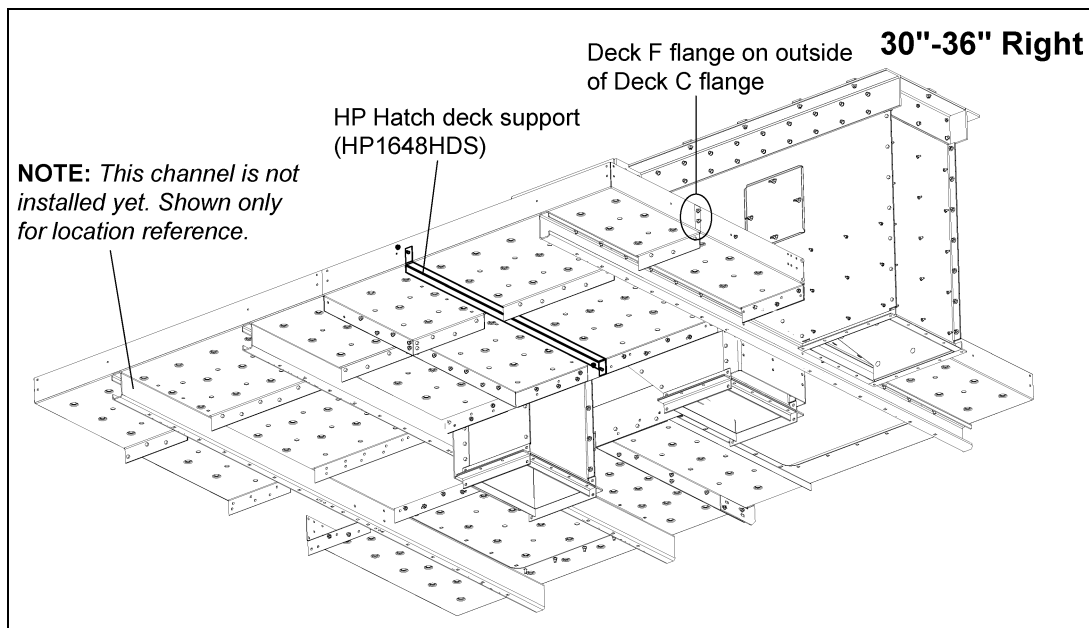

Figure 8N
5. Orient Deck F flange outside of Deck C flange. *(See Figure 8N on Page 61.)*
7. Install the head platform hatch deck support (HP1648HDS) under Deck C and Deck F using 3/8" x 3/4" bolt (S-7105) and nut. (See Figure 8N.) **NOTE:** You may need to remove a bolt from the toe board if one was installed in this location.